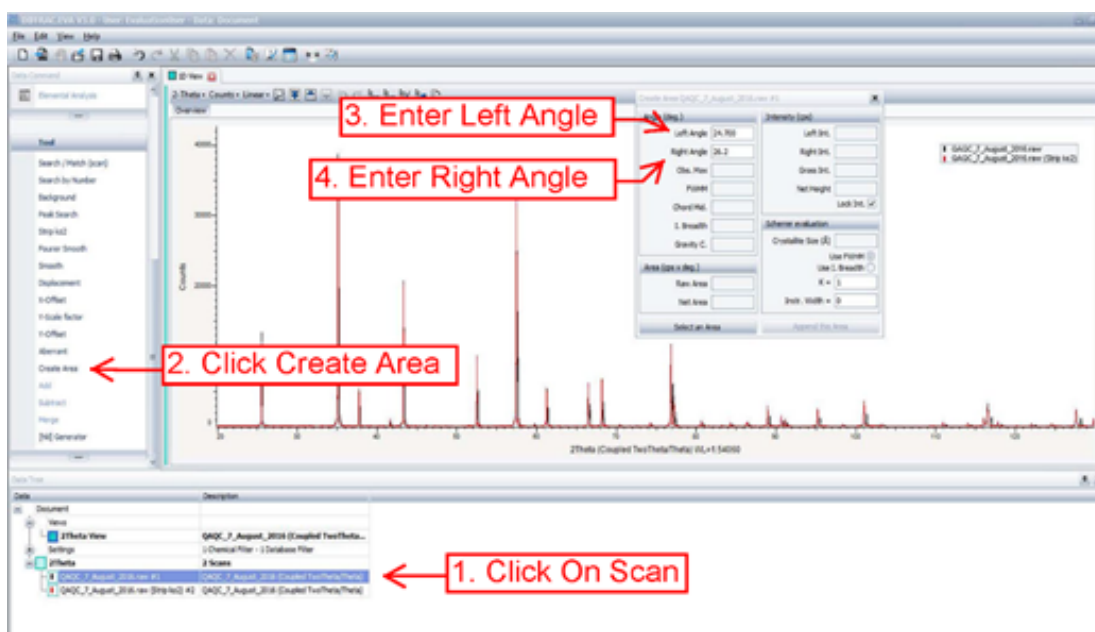

Figure 32: Create Area for Scan Angles. (1) Arrow points to scan name (2) Create Area tool (3) Left Angle entry field (4) Right Angle entry field
5. Select the area around each peak as shown below in Figure 32. Click on either scan so that it is highlighted (Figure 32). Then click "Create Area" (Figure 32-2). A New window will pop up where you can enter the left angle and right angle (Figure 32-3, 32-4).